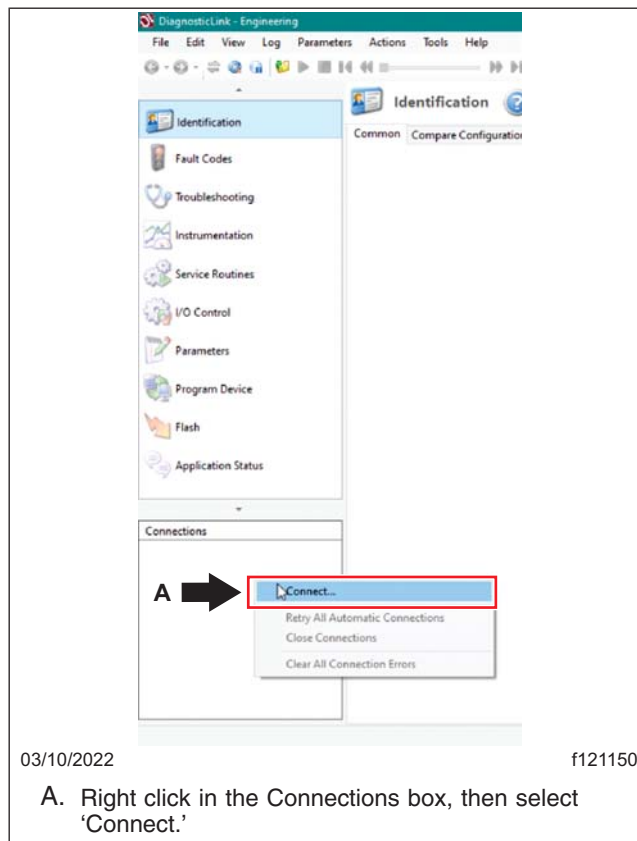

Fig. 25, Establishing Manual Connection
6. In the 'Connections' window, right click, and select 'Connect.' See Fig. 25.